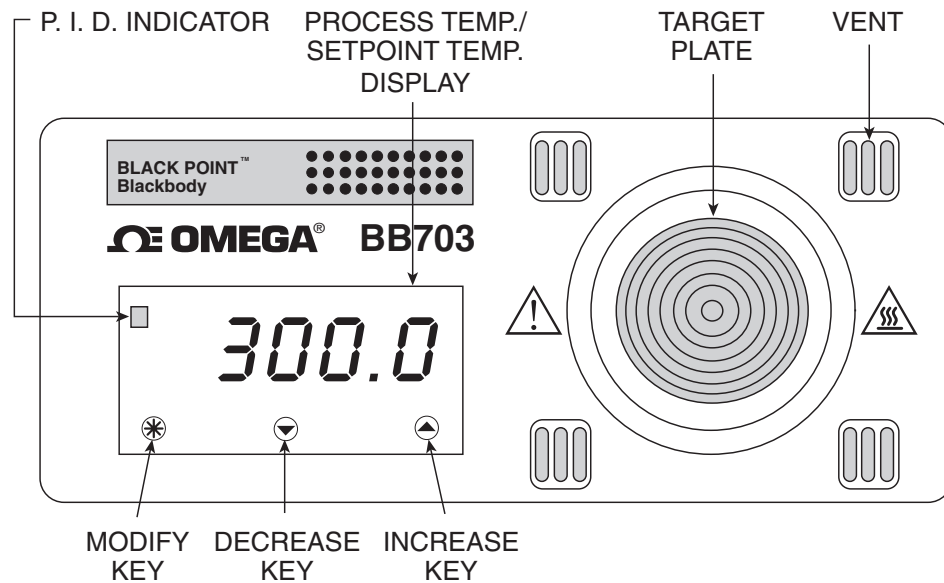

Figure 3. Front Panel
The layout of the front panel is shown in Figure 3. The BB703 incorporates a PID digital setpoint controller. In the default mode the digital display indicates the blackbody target plate temperature known as (PV) Process Variable. Holding down the modify key causes the display to show the programmed setpoint known as (SV) Setpoint Variable. Making changes to the setpoint, units of measure and communication settings are made by pressing the MODIFY key in conjunction with the INCREASE or DECREASE key. Holding the MODIFY key and INCREASE/DECREASE key for an extended period will cause the setpoint temperature to advance more quickly to a desired value. Three scanning speeds are provided: slow, medium and fast. The minimum and maximum setpoints are locked at 0 and 400°C (32 and 752°F), respectively. **While these max. and min. settings are changeable (see "Changing the Internal Parameters," Section 3.5), it is strongly advised not to adjust these parameters.**